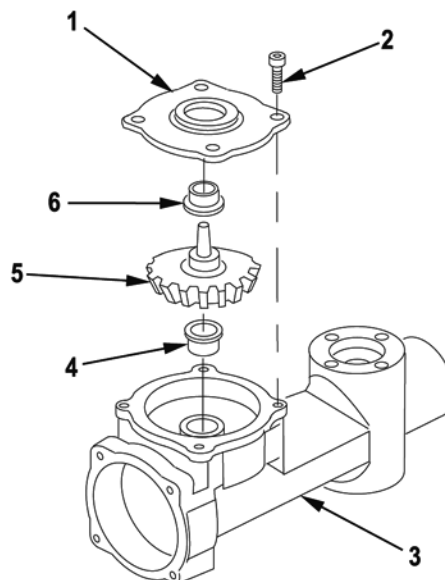

Figure 3. Disassembly of Upper Mechanical Housing.
13. Remove four socket head capscrews (Figure 3, Item 2) and access cover (Figure 3, Item 1) from upper elevation housing (Figure 3, Item 3).
14. Remove sleeve bearing (Figure 3, Item 6) from access cover (Figure 3, Item 1). Discard sleeve bearing.
15. Remove bevel gear (Figure 3, Item 5) from upper elevation housing (Figure 3, Item 3).
16. Remove sleeve bearing (Figure 3, Item 4) from upper elevation housing (Figure 3, Item 3). Discard sleeve bearing.
2. Inspect bevel gear (Figure 3, Item 5) for wear or missing teeth.